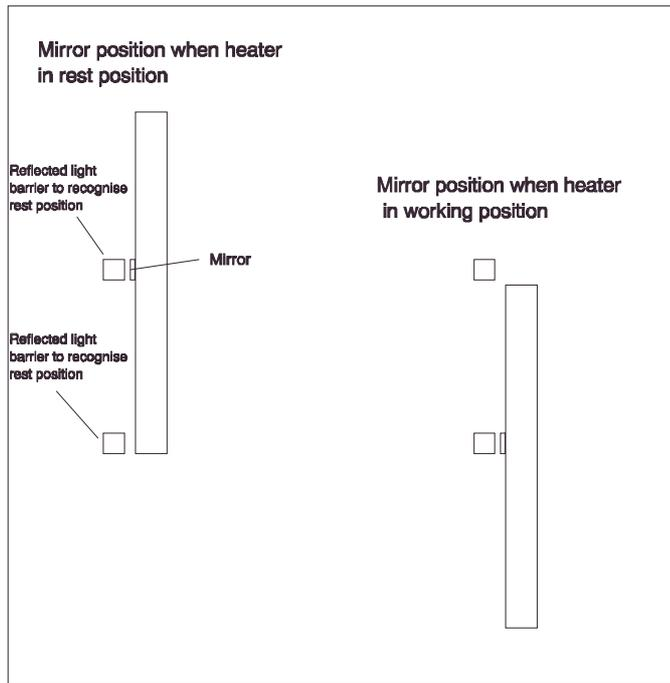
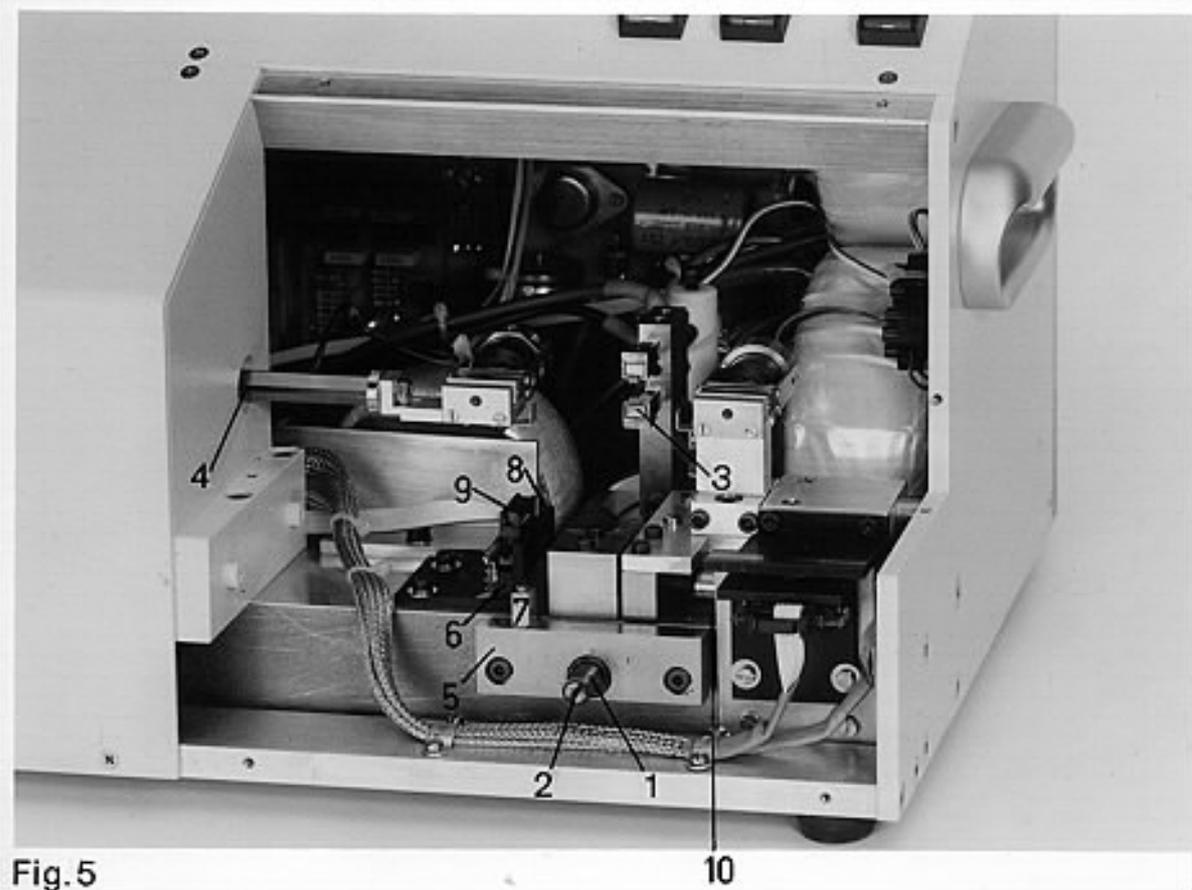

Fig. 1
Fig.5
Fine adjustment of the position of the heating filament: **after closing** the cover as described above, switch on the puller (**MAINS**). The heating unit will immediately return to its rest position. Insert a glass blank into the glass holders and press **START**. Immediately before the puller has moved the heating unit to its advanced position, switch the puller off (**MAINS**). Now remove the metal cover again. Give the spindle (Fig. 5, 1) a few turns using a screw driver inserted in the slit (2) until the loop of the heating filament has reached the glass. Carefully adjust the position of the filament as above. The glass tube should be centred precisely in the loop of the heating filament.
2. Remove the cover panel (Fig. 1, 18, three screws).
13. Replace the cover (Fig. 1, 18).
When the puller is turned on (**MAINS**, see **Remedy A**) or when the pull sequence is started (**START**, see **Remedy B**), a rattling motor noise may be heard. This indicates that the bronze block (Fig. 5, 5) of the heater advance has become completely detached from the spindle (Fig. 5, 1). The spindle has an external thread and the bronze block an internal thread and under normal conditions the spindle is screwed into the bronze block. The length of the spindle and its thread are so designed that in the case of an error the heater advance cannot jam mechanically, in either its advanced or retracted position. Complete detachment of the bronze block from the spindle thread is normally prevented by two reflected light sensors (6) and a small mirror which is glued to the guide track (7) which moves with the heater (The mounted mirror cannot be seen, it is situated between the black aluminium part (8) of the sensor and the track (7)). The travel of the heater advance is the distance between these two sensors (see sketch Fig. 1 on the end of this chapter). The error case occurs when the mirror is beyond either of the reflected light barriers (see sketch Fig. 2 on the end of this chapter).
The bronze block must be screwed back onto the spindle (Fig. 5, 1):
Step 1. Switch off the puller (**MAINS**) and pull out the mains plug. Open the lower right cover panel (Fig. 1, 14) .
If the heater is in its rear position, turn the spindle (Fig. 5,1) clockwise using a screwdriver in the slit (2). At the same time, and using a second screwdriver, push the bronze block forwards (i.e. towards you) so that its thread engages in the first turn of the spindle's thread. (If the heater is in its forward or working position, see Remedy B)
Continue to turn the spindle clockwise until the heater is at approximately the middle of its travel. For safety reasons the cover panel (Fig. 1, 15) must be replaced before switching the puller on. Use the screws which were removed
Possibility 2. There is an error in the sensors (Fig. 5, 6)
To exclude the second possibility, detach the plug (Fig. 5, 9) leading to the sensors whilst the rattling noise continues (the cover panel must be removed again to do this).
**Take care! Fingers can be seriously injured if jammed between the aluminium block (Fig. 5, 10) and the bronze block (5) as the heater reverses. Keep hands and fingers away from here!**
If a rattling noise is heard when the heater is in its working (outer) position, the bronze block (Fig. 5, 5) has advanced off the front end of the spindle thread.(1) i.e. the sensor has not recognised the working position of the heater. To find and remedy the error, the threads of the bronze block and the spindle must first be reengaged.
For safety, switch the puller off (**MAINS**) and remove the mains plug. Open the lower right cover panel (Fig. 1, 14) .
Turn the spindle (Fig. 5, 1) counterclockwise using a screwdriver in the slit (2) and, at the same time push the bronze block (5) towards the rear until the threads of the spindle and bronze block engage. Continue to turn the spindle (1) until the heater is at approximately the middle of its travel.
For safety reasons the cover panel (Fig. 1, 15) must be replaced before switching the puller on. Use the screws which were removed at step 1 above. **Failure to close the cover properly may result in the advancing heater colliding with the cover panel and causing serious damage to the instrument.**
Possibility 2. There is an error in the sensors (Fig. 5, 6).